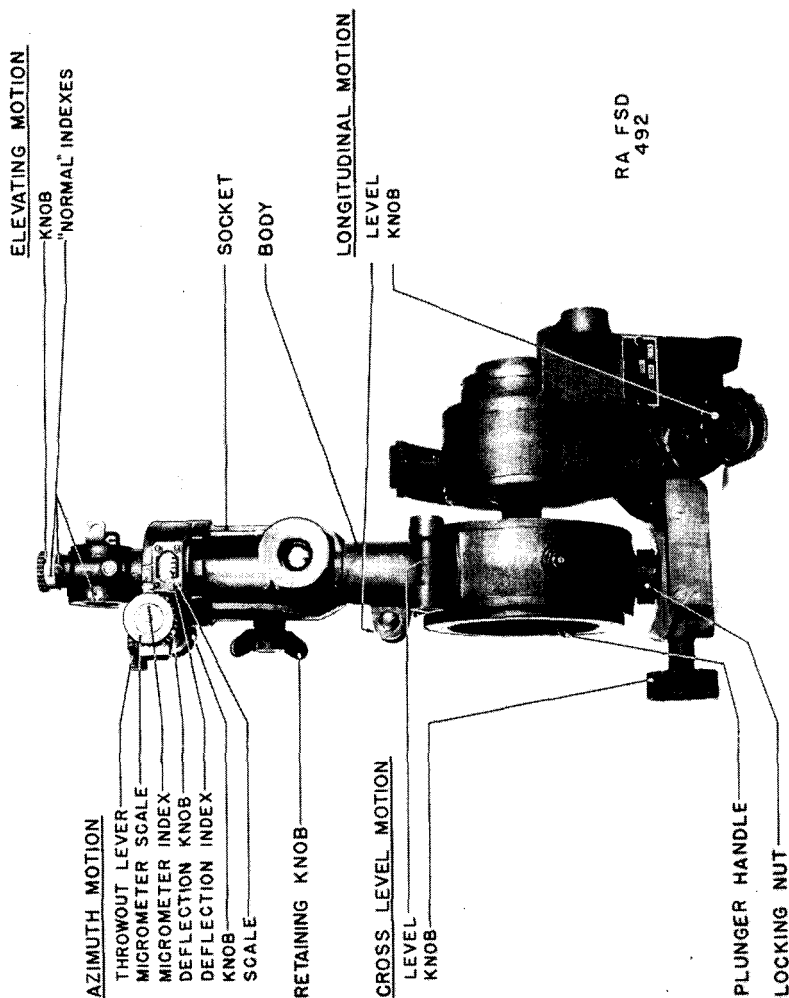

FIGURE 40.—Telescope mount, M15, with panoramic telescope, M5 or M5A2.
**44. Mount, telescope, M15 and panoramic telescope, M5 or M5A2.**—This telescope and mount (fig. 40) furnished with each 75-mm gun and carriage, M2, M2A1, or M2A2, form the sighting element for aiming the gun. The mount is of the azimuth compensating
normal (zero elevation) position, but there are no means for reading other angles of elevation. The azimuth scale is graduated at 100-mil intervals, numbered progressively 0 to 32 in two consecutive semi-circles; zero readings indicate line of sight to be directly forward as in figure 40 or directly backward. The telescope is moved in azimuth by